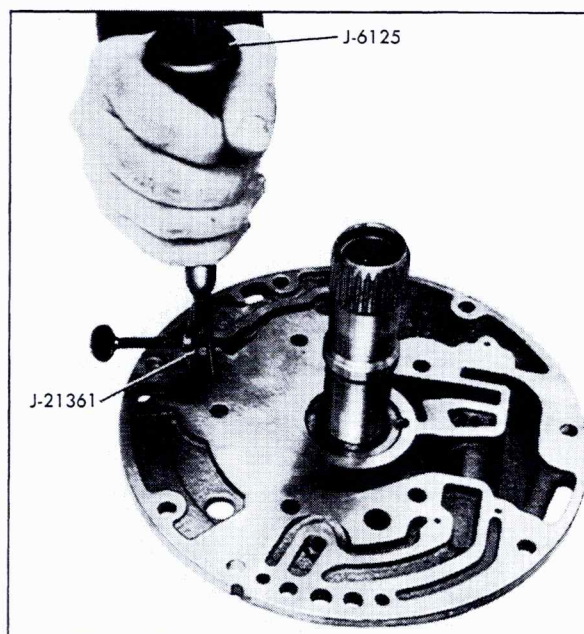

Fig. 7-71 Removing By-Pass Valve Seat
11. If necessary, remove the cooler by-pass valve seat using Pump Check Valve Seat Remover, J-21361, attached to Slide Hammer, J-6125-1, and Adapter J-6125-2, Fig. 7-71. Install remover tool in valve seat and drive upward on slide hammer to remove valve seat.